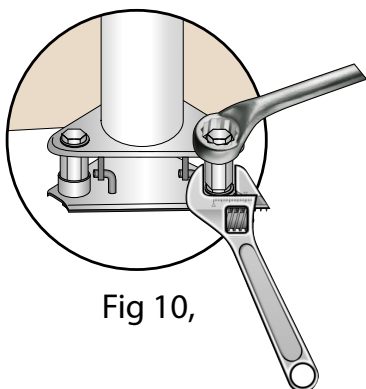

Fig 10,
11. Tighten the set screws whilst preventing the long nut from rotating. (See Fig 10)